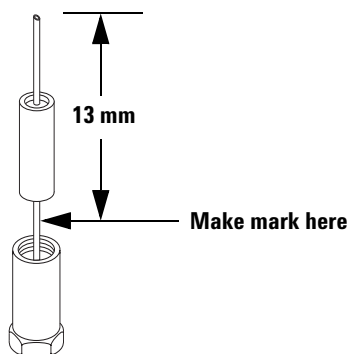

Figure 60 Marking the column
- 8** Using typewriter correction fluid, make a mark, 13 mm from the inlet end of the column. See Figure 60.